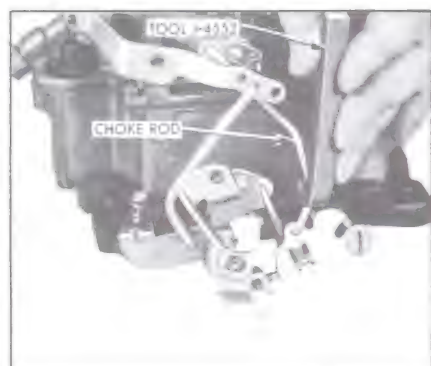

Figure 3-60—Adjusting Fast Idle Cam choke trip lever on end of choke shaft with "RP" out and tighten attaching screw. See Figure 3-50.
2. If choke valve clearance is not correct, bend choke rod as required to obtain this clearance using Tool J-4552. See Figure 3-60.